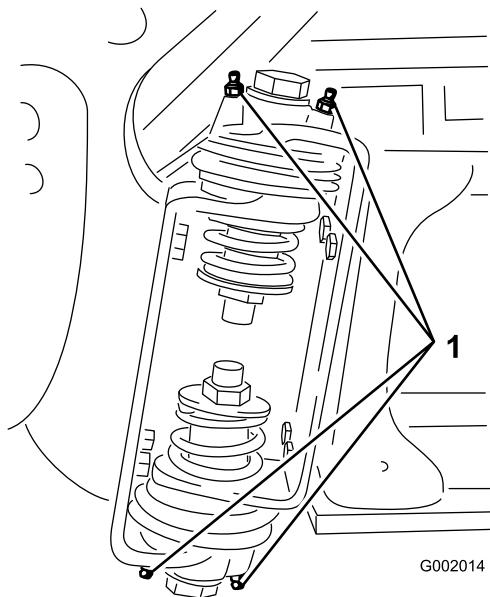

Figure 68
2. Pump grease into the bearing or bushing at each fitting (Figure 68).